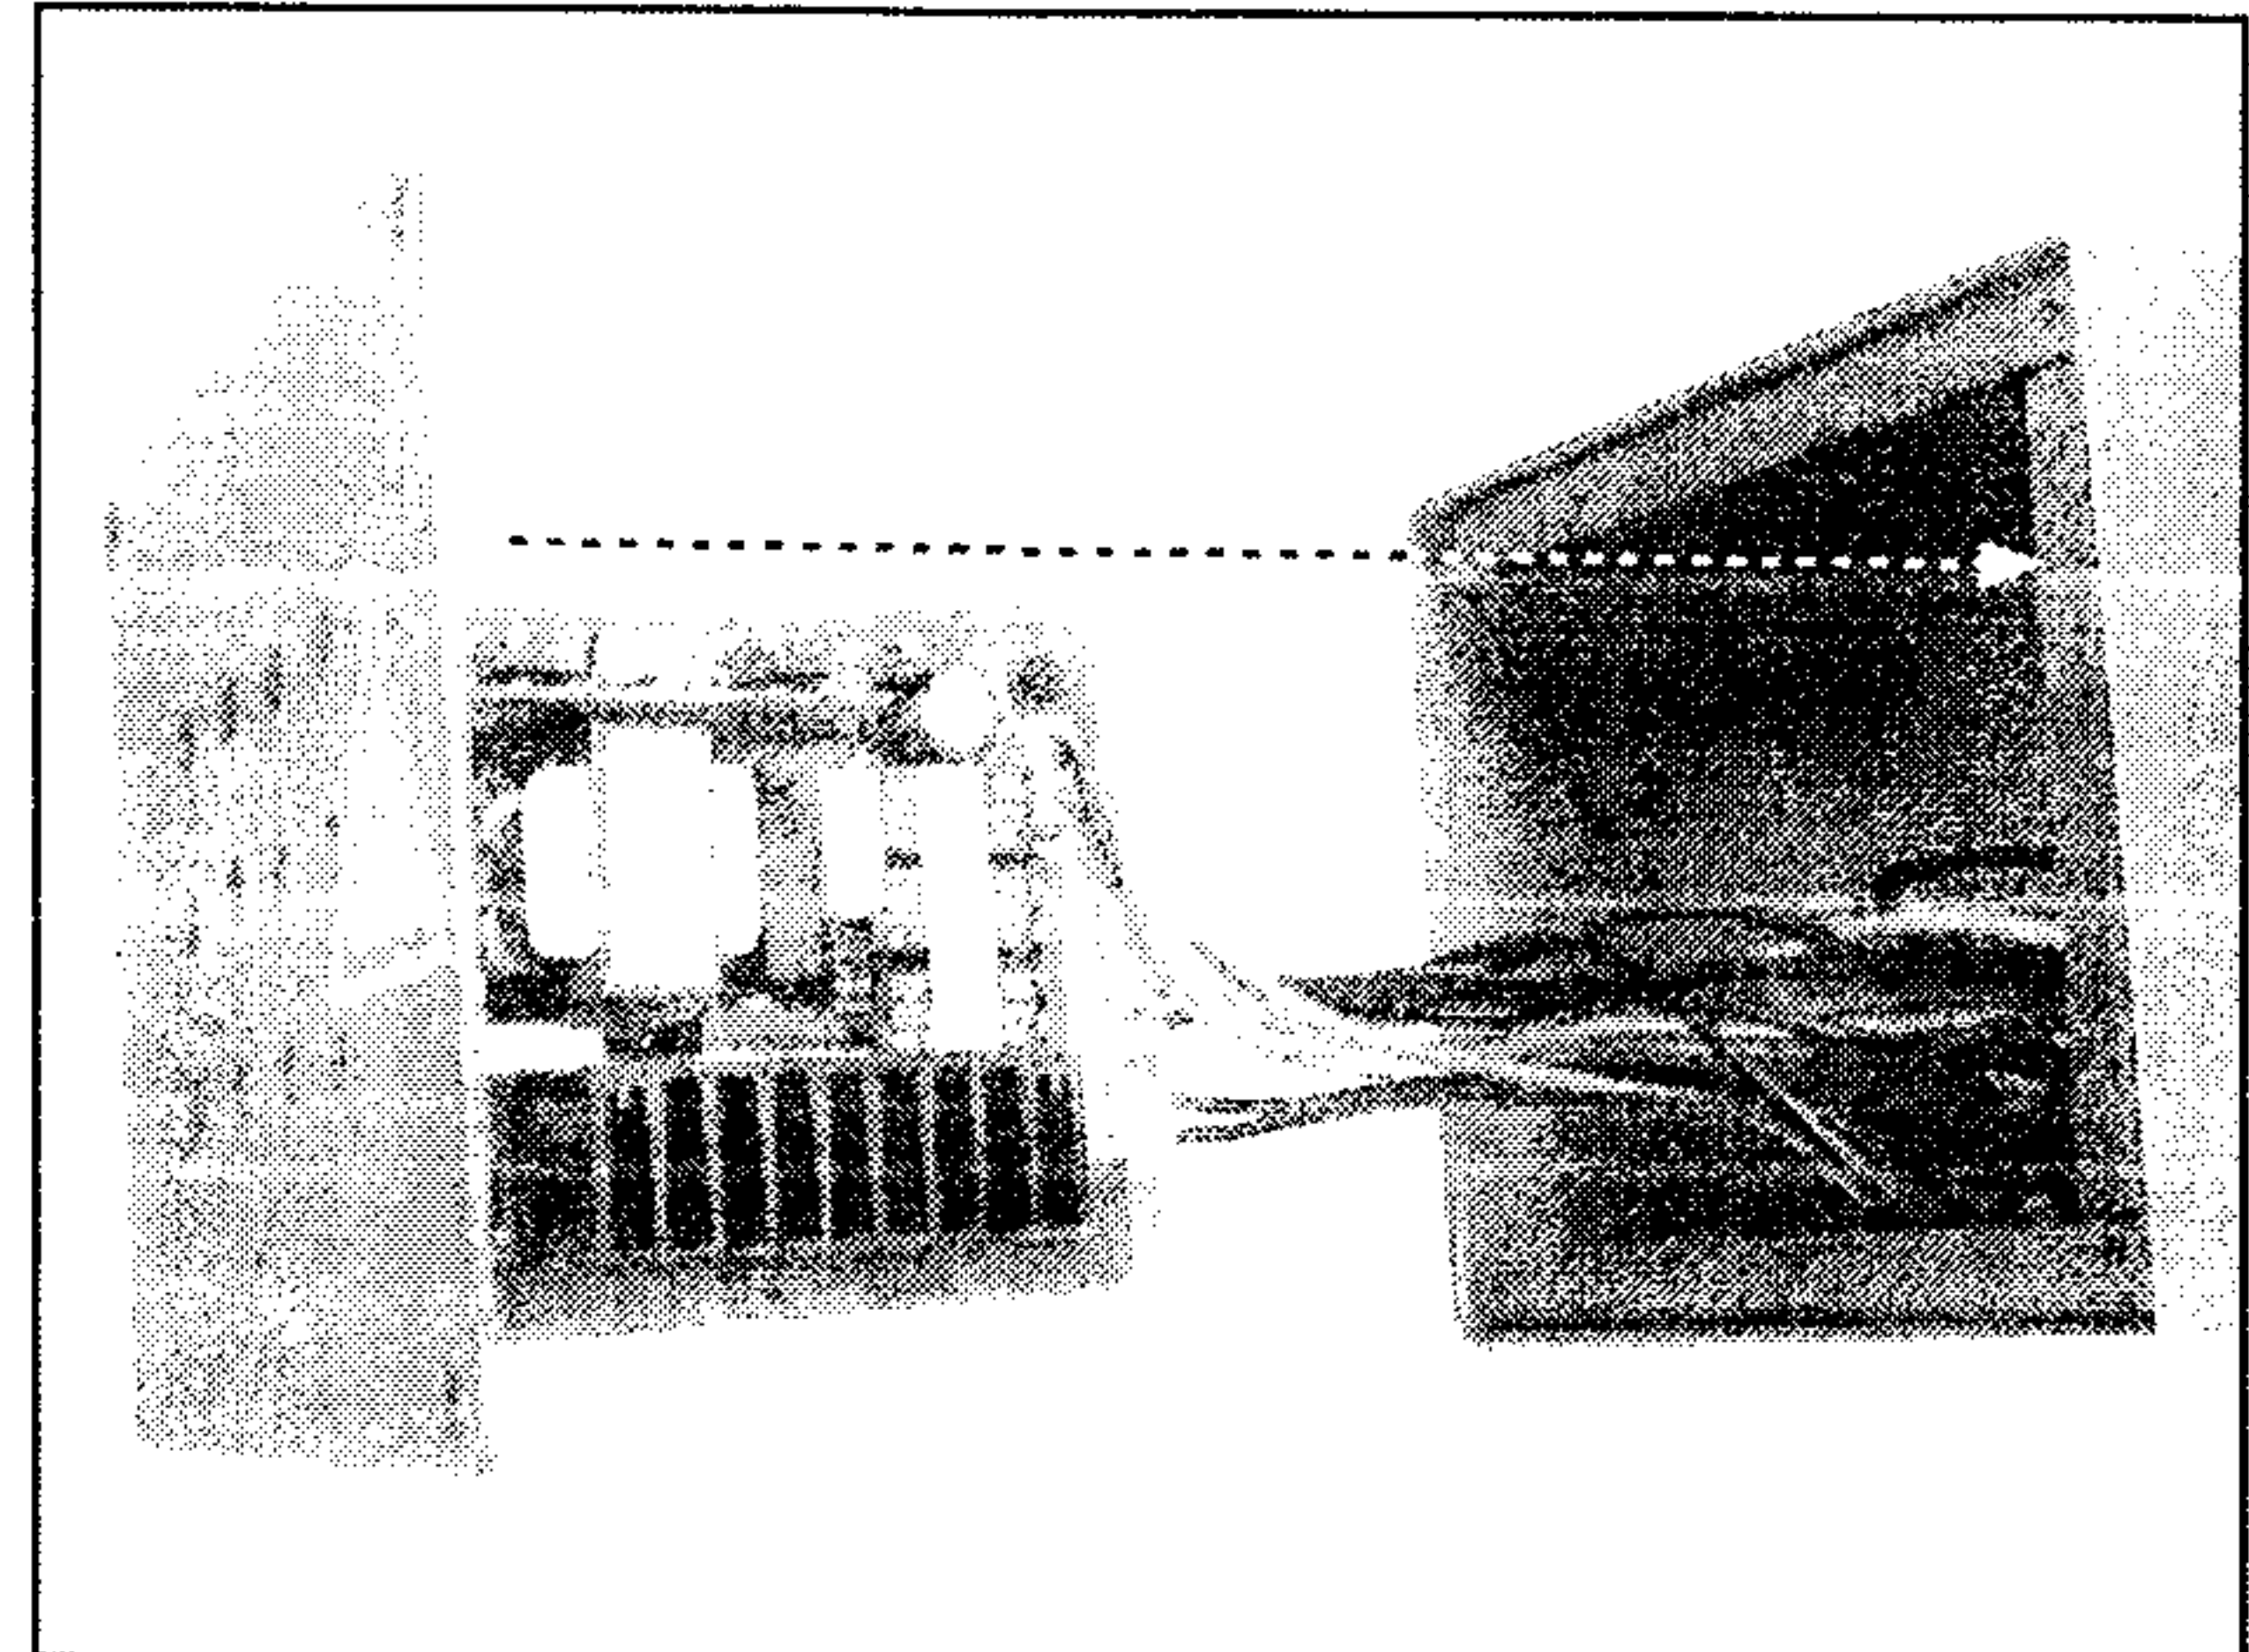

**Figure 13.** Motor installation.
19. Rotate the power feed drive tang so it aligns with the lead screw slot (**Figure 13**).